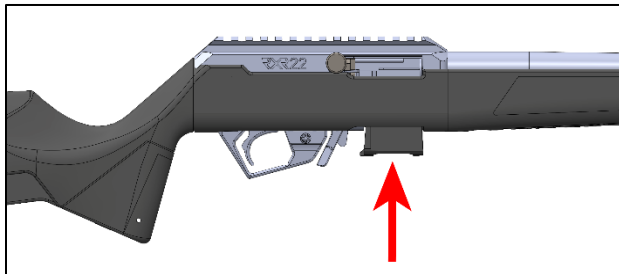

Figure 14
- Insert the magazine into the opening in the stock with the cartridge projectile facing towards the muzzle – Figure 14. The magazine will only install in one orientation.